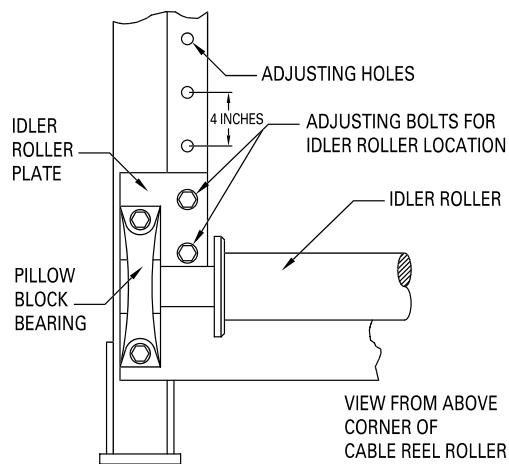

Figure 6a
2. Adjust the distance between the rollers (See "Idler Roller Position Chart" on pg. 8). Remove the four adjusting bolts (2 each side) connecting the idler roller plate to the reel roller base. Slide the idler roller assembly to the desired position and replace the 4 bolts (see Figure 6a).